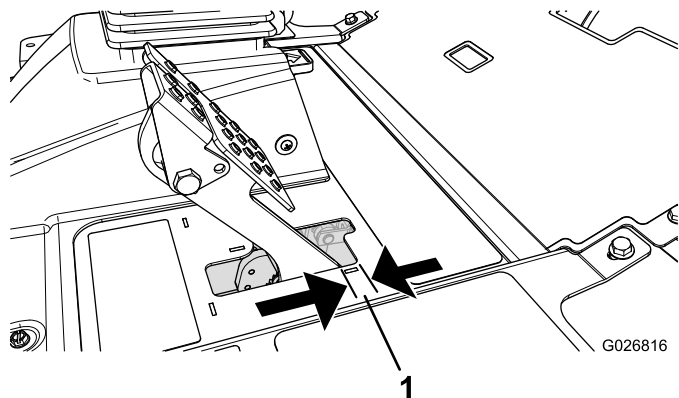

Figure 87
Adjust the brakes when there is more than 2.5 cm (1 inch) of free travel (Figure 87) of the brake pedal, or when more holding force is required. Free travel is the distance the brake pedal moves before you feel braking resistance.
2. Tighten the rear nut to move the cable backward until brake pedals have 0.63 to 1.27 cm (1/4 to 1/2 inch) of free travel (Figure 87), before wheel lock up is achieved.